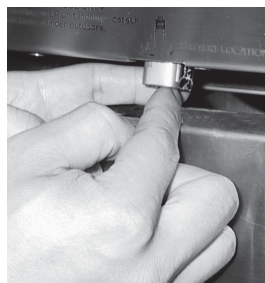
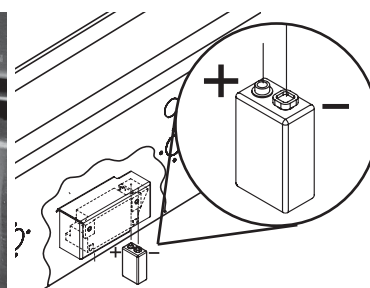

FIG. 37
FIG. 38
4. Re-install upward and push to snap - Fig. 37. (polarity is shown in Fig. 38).